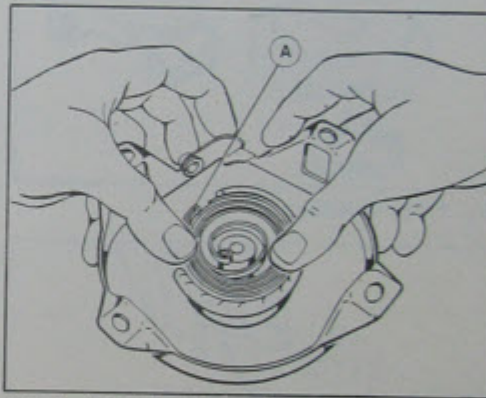
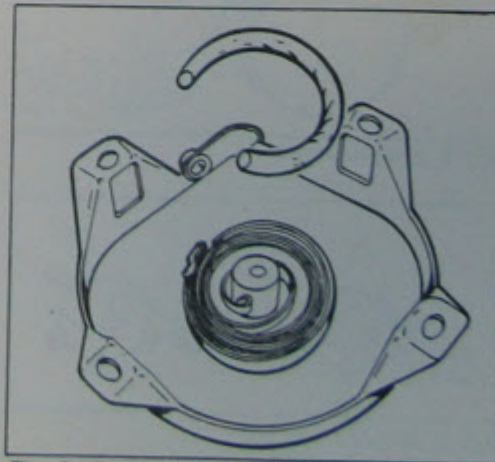

Fig. 8 Locating the spring
Fig. 9 Spring in position
- Rest spring container on inner surface of starter housing, locate outer hook of spring A in the associated notch in the housing (see fig. 8) and press spring fully home (see fig. 9). Lubricate spring well with soft grease.